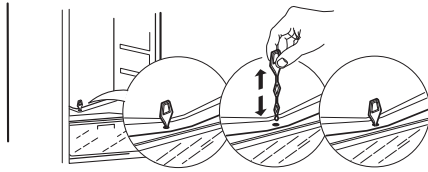

fig. 1
- If the refrigerator compartment of your appliance is fitted with a thermostat box the temperature of both compartments is adjusted using the thermostat knob as shown in figure 1. Move the knob to the ● position to switch the whole appliance off.
- If in addition to the internal thermostat box your appliance also has an external control panel with an adjustment knob, the temperatures of the two compartments must be adjusted separately. The knob of the thermostat inside the refrigerator compartment is used for adjusting the temperature of the refrigerator compartment only (see fig. 1), while the external panel is used to adjust the temperature of the freezer compartment.
To remove the light bulb turn anticlockwise as shown in figure 1.
Regularly clean the appliance using a cloth and a solution of warm water, with some soft detergent suitable for cleaning the inside of the refrigerator compartment. Do not use abrasive detergents or tools. To ensure continuous and correct flow of defrost water, regularly clean the inside of the draining hole on the back of the refrigerator near the fruit and vegetable drawer, using the tool provided (see fig.1).